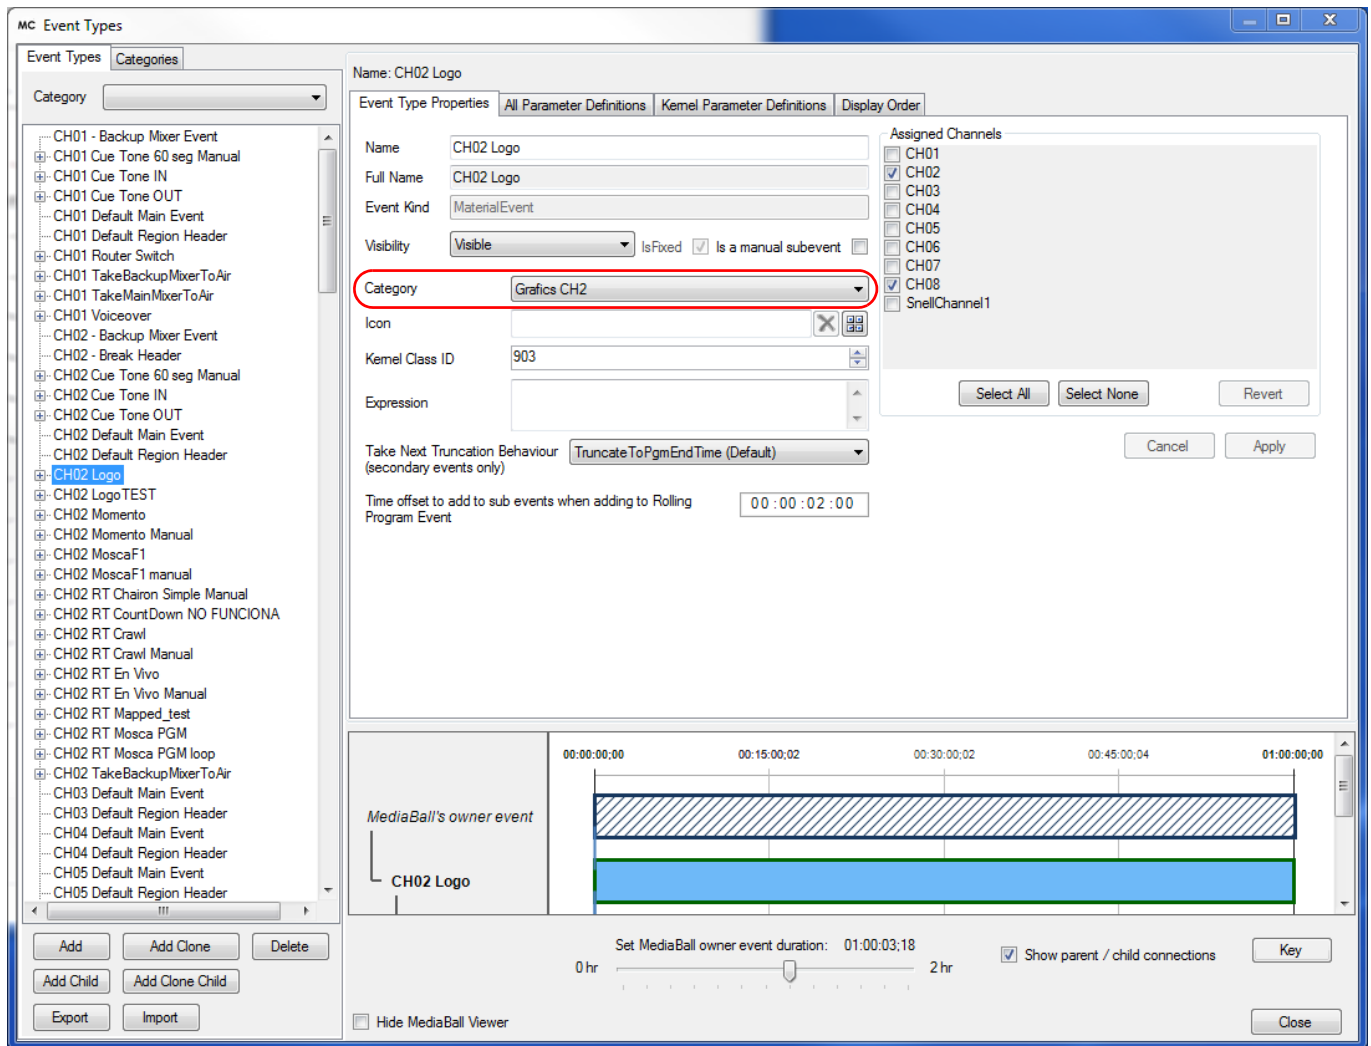

Figure 17 Event Properties
2. The Enter Name window is displayed with a default name for the category - enter a different name as required and click on **OK**. The new category appears in list to the left of the Event Types window and is now available to be selected as a property for any Event Type (Figure 17).